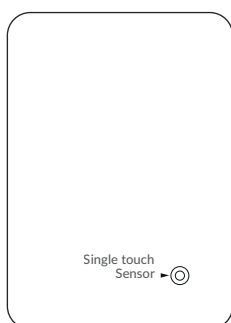

Fig. 1
7. Finally switch on the power, and then touch the switch sign (Fig 1) with a finger on the lens to test the products.